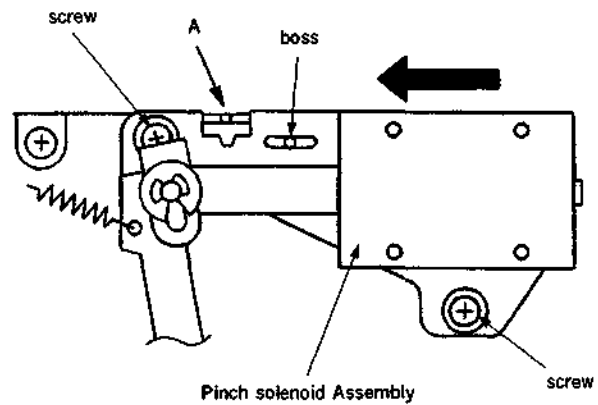

Fig. 4
- ① Align the longitudinal hole of the pinch solenoid ass'y with the boss of the mechanical chassis, then screw in the fixing screws but do not tighten them hard. (Fig. 4)
- ② Insert a flat blade screwdriver at the point indicated by A in the drawing, then turn it clockwise so that the pinch solenoid ass'y moves in the direction of the arrow as far as it will go, and tighten the two screws hard. (Fig. 4)